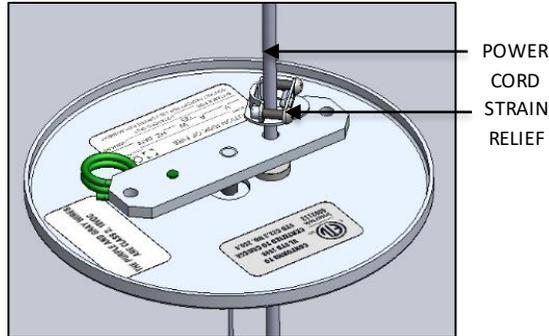

FIG. 31 – STRAIN RELIEF INSTALLATION
- Then first feed the CORD through the holes which is available in the MOUNTING BRACKET ASSEMBLY and then secured it to the desired length bypass it through the STRAIN RELIEF as shown below in FIG. 31 & 32.